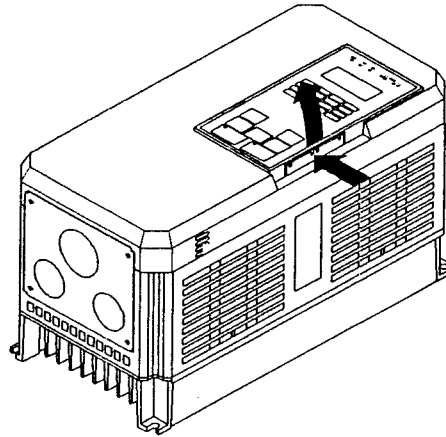

Figure 1.4
10. Remove the keypad from the front cover by pushing the depression area and lifting the keypad as shown in Figure 1.4.